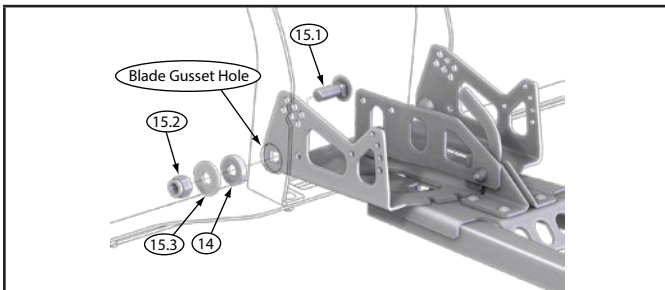

Figure 7 - Pivot Bolt Assembly
5. Place washer bearing (14) into hole in blade gusset and secure blade to tube system by fastening with the 1½ in. (38.1 mm) carriage bolt (15.1), USS flat washer (15.3) and lock nut (15.2), as shown in Figure 7. Repeat on right hand side.